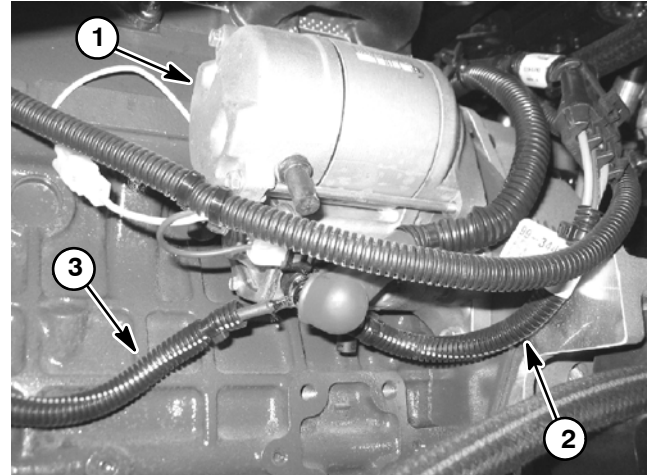

Figure 55
The Groundsmaster 360 uses four (4) fusible links for circuit protection. Two (2) of these fusible links are included in a three (3) wire harness that connects the starter B+ terminal to the wire harness (Fig. 55 and 56). An additional fusible link is used that connects the starter B+ terminal to the alternator B+ terminal (Fig. 55 and 57). The remaining fusible link is included in the wire harness and connects the starter G terminal to the engine run solenoid pull coil. If any of these links should fail, current to the protected circuit will cease. Refer to the electrical schematic and wire harness drawings in Chapter 9 – Foldout Drawings for additional circuit information.